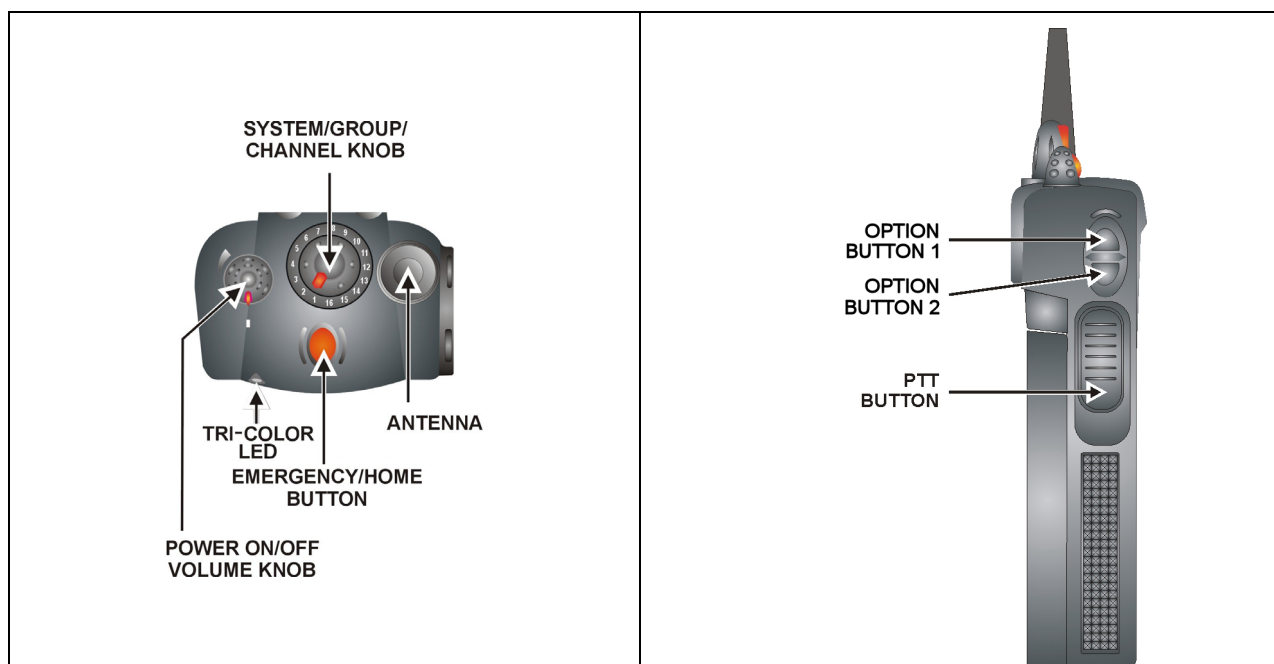

Figure 9-1: Top and Side View
1. Power ON the radio by rotating the POWER ON/OFF/VOLUME knob clockwise. A short alert signal (if enabled through programming) indicates the radio is ready to use. Refer to Figure 9-1 for location of the POWER ON/OFF/VOLUME knob.
The radio features two rotary control knobs and an emergency button mounted on the top of the radio (Figure 9-1). Push-To-Talk and option buttons are mounted on the side (Figure 9-1). The front mounted keypad of the P7270 System model has 15 buttons and the P5250 and P7250 Scan models have six buttons. The P7230 Select model does not have a front mounted keypad.
PTT BUTTON	<p>Push-To-Talk must be pressed before voice transmission begins. In trunked mode the radio's ID is transmitted upon depression of the PTT button. Refer to Figure 9-1 for the location of the PTT button.</p>